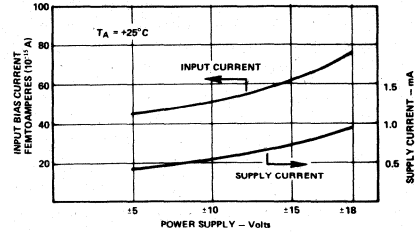

Figure 8. Input Bias Current and Supply Current Versus Supply Voltage
2. The heat dissipation can be reduced initially by careful investigation of the application. First, if it is possible to reduce the required power supplies, this should be done since internal power consumption contributes the largest component of self-heating. To minimize this effect, the quiescent current of the AD515 has been reduced to a level much lower than that of any other electrometer-grade device, but additional performance improvement can be gained by lowering the supply voltages, to  $\pm 5$  volts if possible. The effects of this are shown in Figure 8, which shows typical input bias current and quiescent current versus supply voltage.